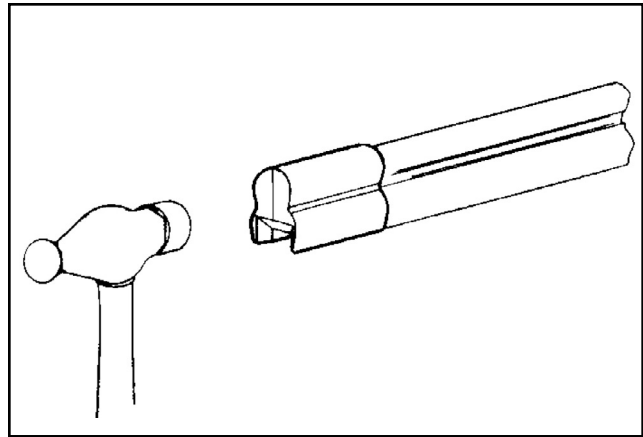

Figure 26-1
A. Center end cover / transfer cap on the end of the bar. Tap lightly with a hammer until securely seated. See **Figure 26-1**.